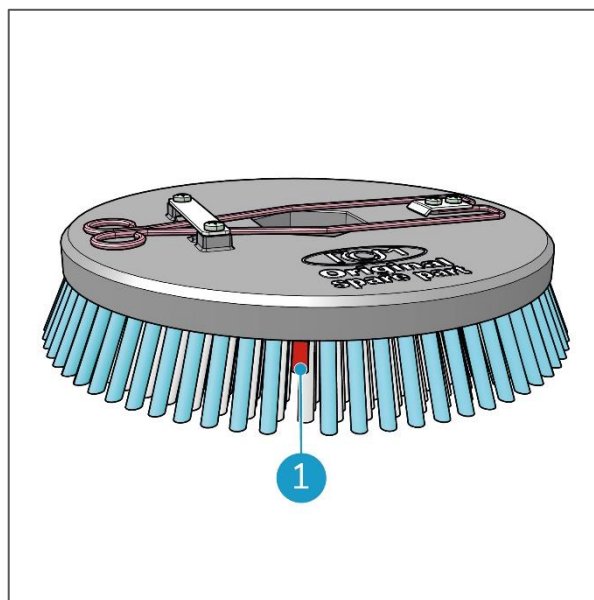

Figure 44
2. Check the condition of the disc brushes. If the bristle length is near the length of the red bristle group (Figure 44, pos 1), it needs to be replaced.